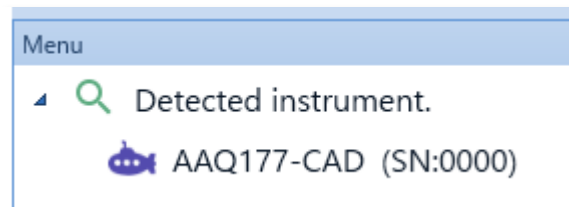

Figure 6.2 Detected instrument
- (3) Displays detected instruments in “instrument menu” if any are detected. (Figure 6.2)